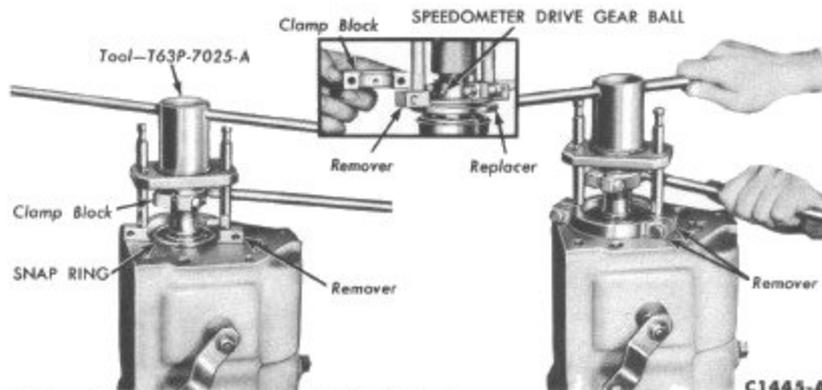

FIG. 45—Removing Output Shaft Bearing
10. Remove the snap ring that retains the output shaft bearing on the shaft. Remove the bearing from the case and shaft as shown in Fig. 45 with tool T63P-7025-A.